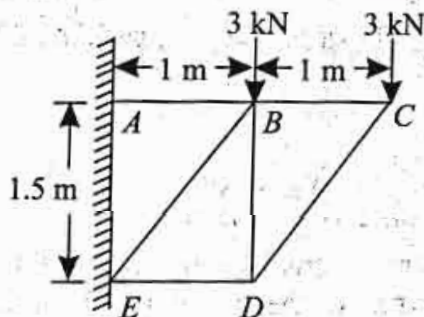

Fig. 11.40.
4. A cantilever truss is subjected to two point loads of 3 kN each at B and C as shown in Fig 11.40. Find by any method the forces in the members AB , BE and ED of the truss.